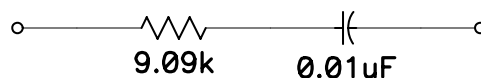

Figure 9.5: Slope Compensation Jumper
- Plug in the slope compensation jumper on to J61. The slope compensation jumper circuit is shown in Fig. 9.5. Observe how the inclusion of slope compensation affects the stability of the converter.